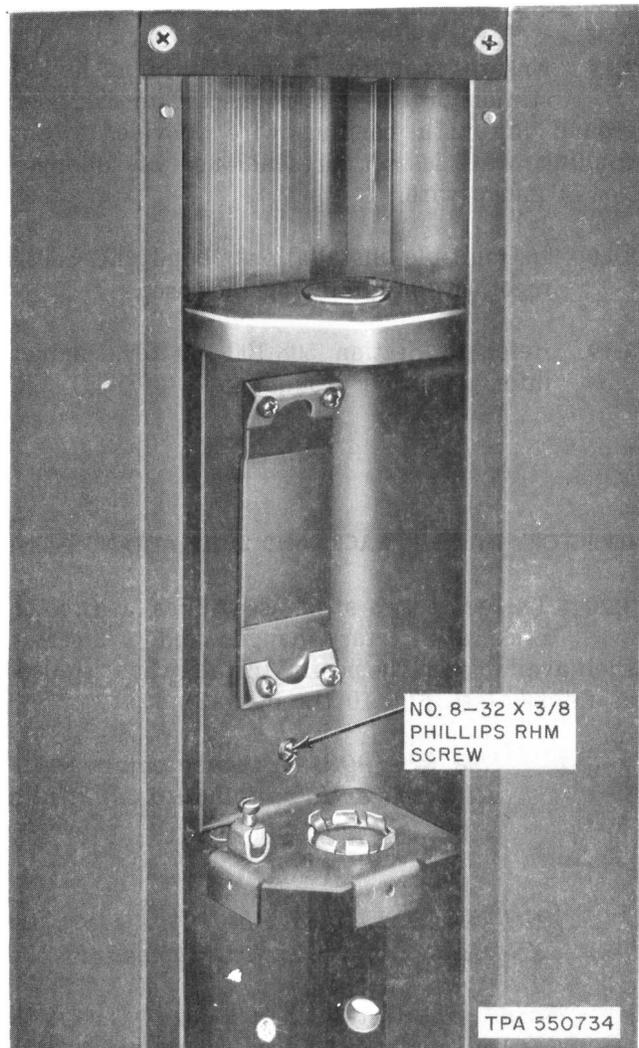

Fig. 22—Installation of Circuit Breaker Box in Lower Backboard
3.26 Install the KS-19426, List 17 circuit breaker box (if applicable) per Fig. 22. Have local electrician install circuit breakers.